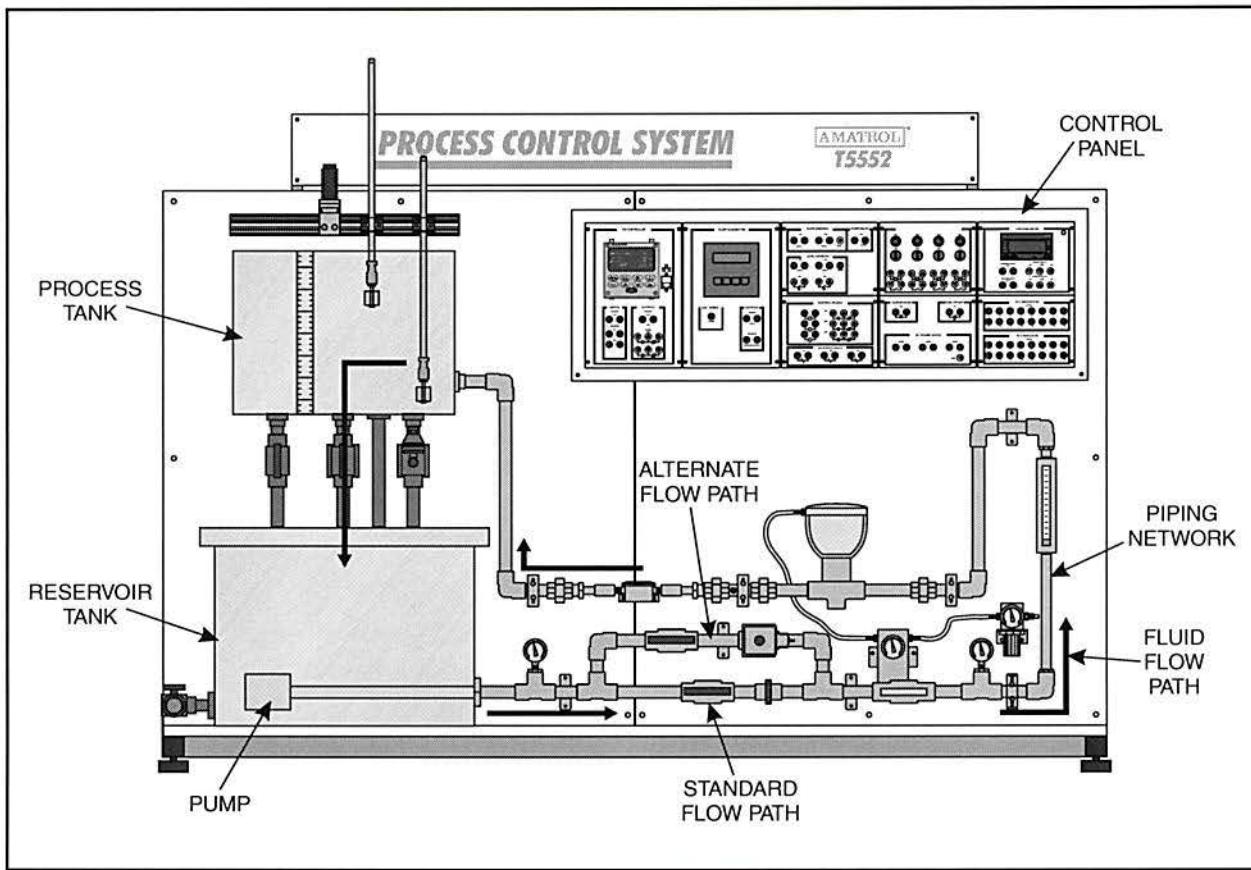

Figure 21. Process Flow Through the T5552
- 2. Locate the five major components on the T5552, as shown in figure 21.
Notice in figure 21 that the flow moves through the piping in a counterclockwise direction. All components in the main piping are connected in series except in one location where a valve can be opened to allow the water to flow through an alternate flow path that contains a solenoid valve. This alternate path can be used when you want to control the flow using the solenoid valve (i.e. ON/OFF control).